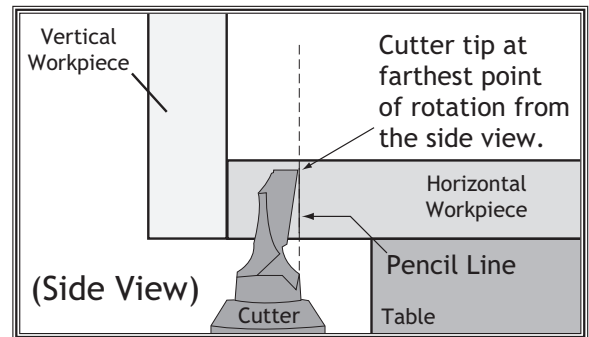

Figure 42. Cutter position to set cutter depth stop (viewed from the side).
7. Adjust the cutter depth bolt until the tip of the cutter aligns with the pencil line (**Figure 42**), then tighten the hex nut.